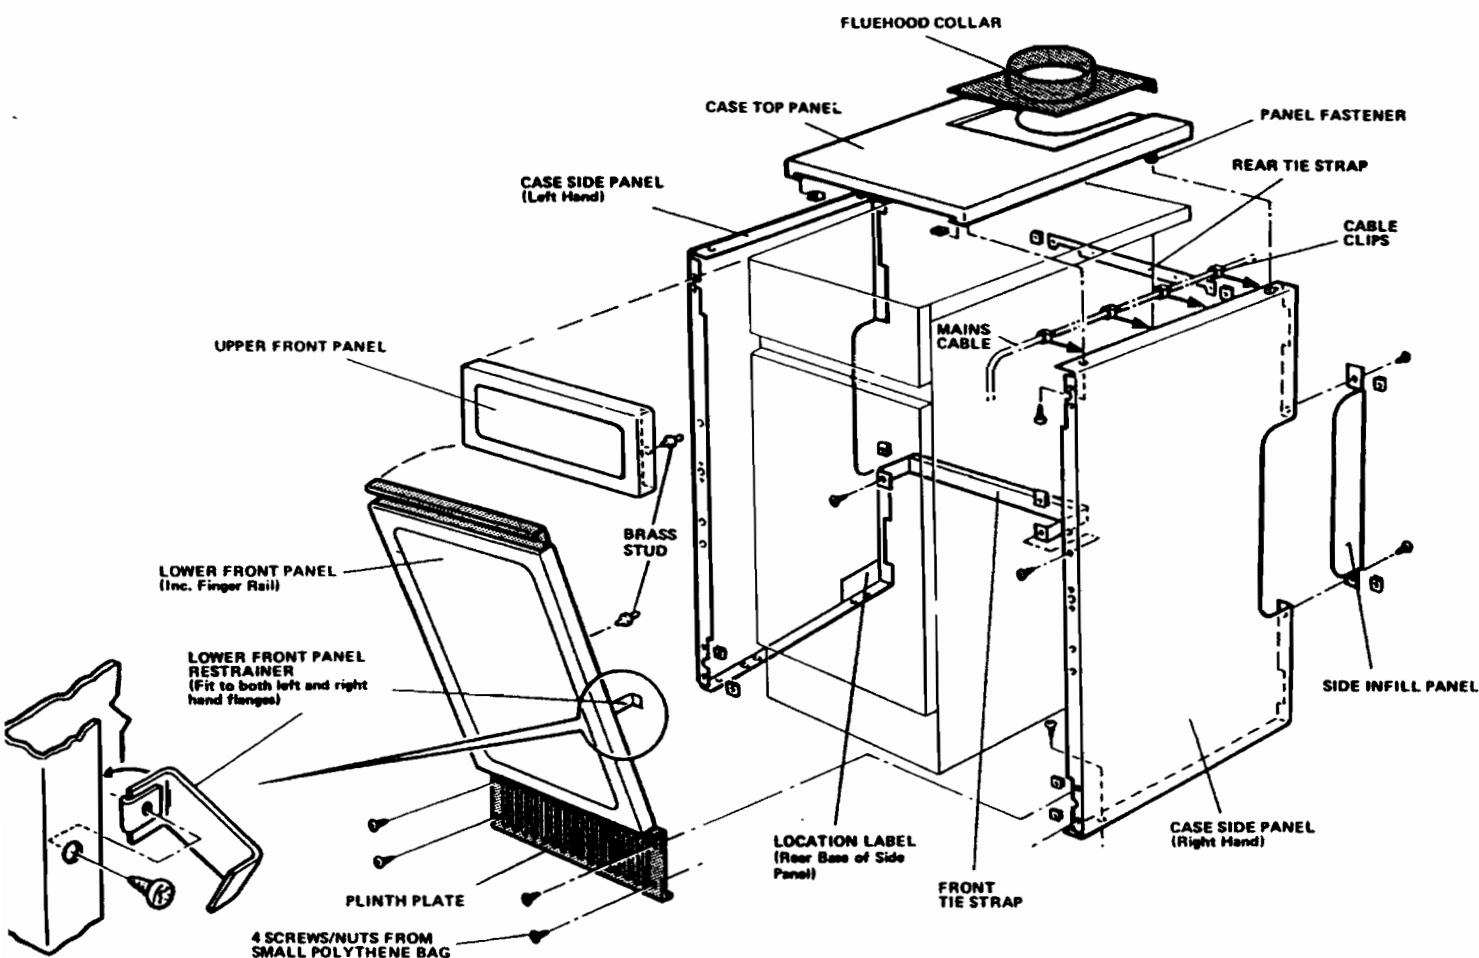

FIG. 10
## **10. CASING—See Fig.10**
- D. Fit the captive nuts supplied in the Fastener Pack to the hole positions shown in Fig.10 (8 off, including 2 for the side infill panel if fitted). The 4 smaller captive nuts and screws contained in the additional bag should be used for the plinth.
R. Fit the two universal case restraining brackets and their captive nuts to the holes beneath the bank of three holes in the flange of the lower front panel (see Fig.10).